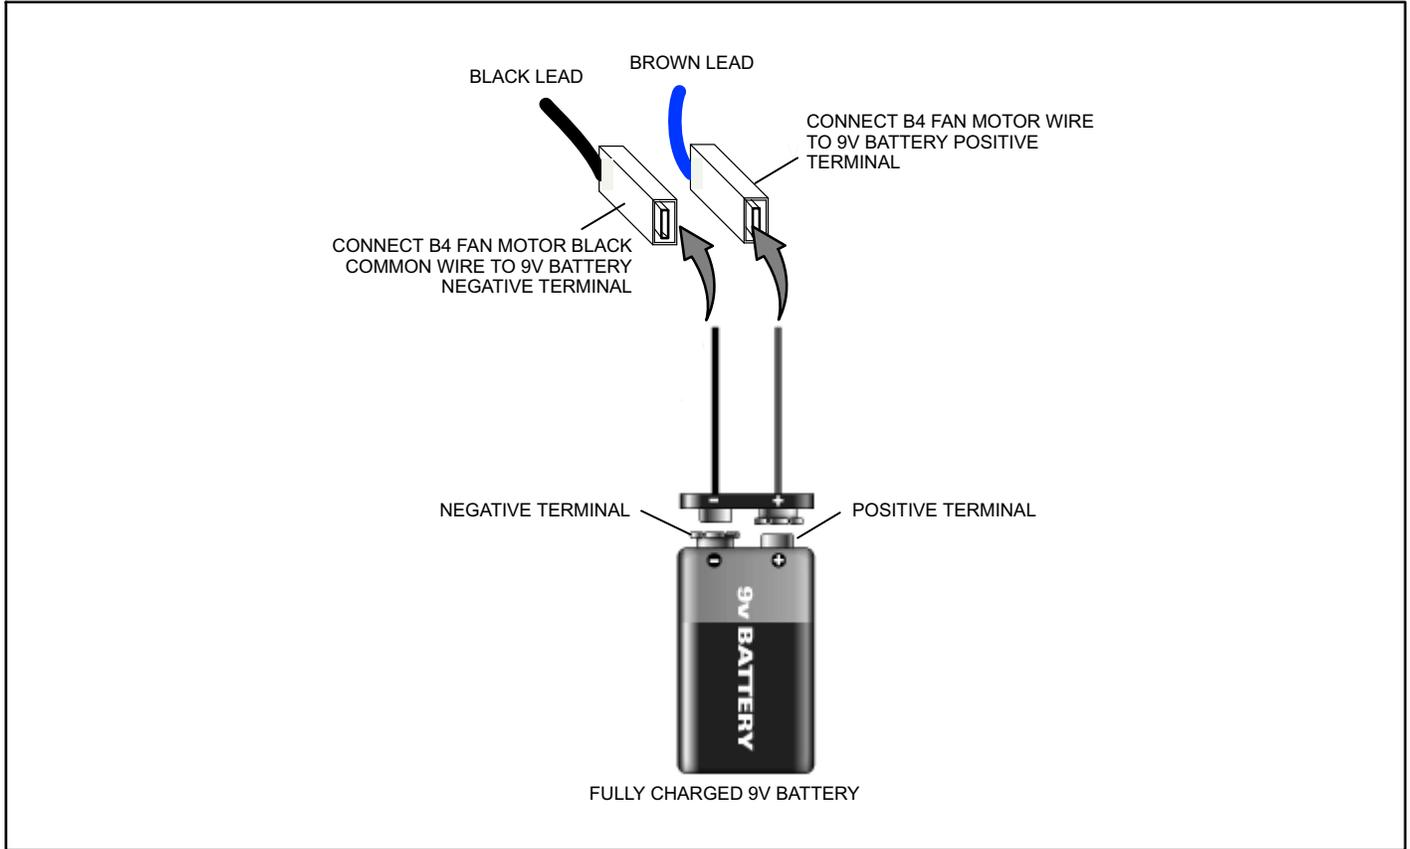

Figure 46. VDC Voltage Check
2. Voltage present – Perform a 9-volt battery test on motor (see figure 46).